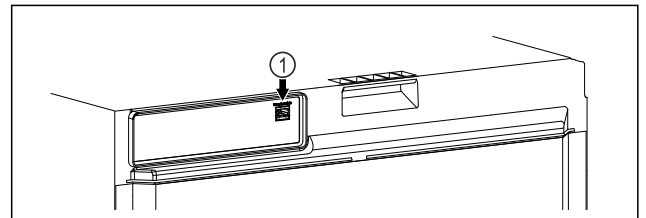

Fig. 141
- SmartModule Fig. 141 (1) has been inserted.